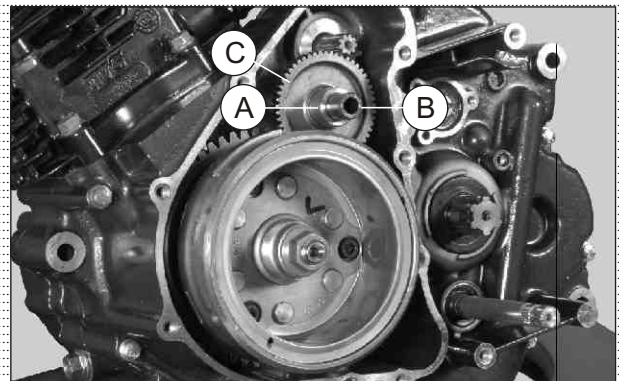

Fig. 3.52
- Remove spacer starter idle gear (A) and pin magneto cover (B). (Fig. 3.52)
- Take out gear starter idle (C). (Fig. 3.52)